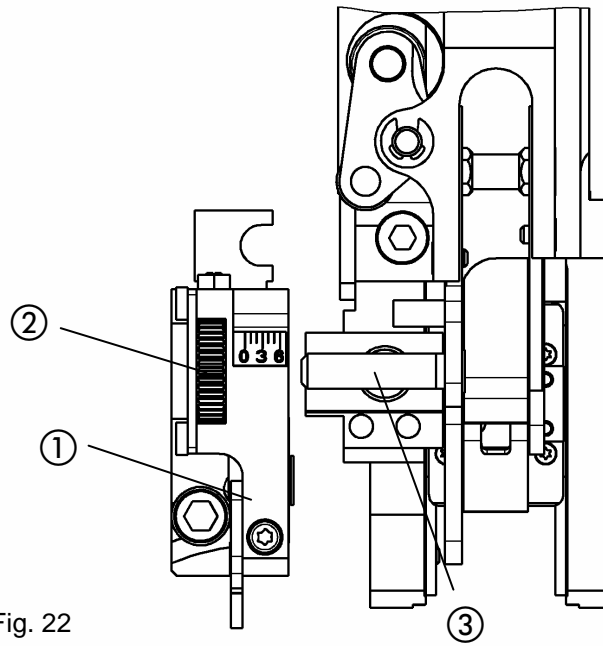

Fig. 22
- Fig. 22 -
- To replace the knife, move the knife box ① completely away from the guide ③ by turning the knurling wheel ② and remove from the stitching head.
- Replace knife slider ⑤ in the knife box ① (arrow B), compressing the pressure spring of the knife slider with a screwdriver, and pushing it into the knife box. Make sure that the pressure spring is not bent.
- Place knife box ① on the guide ③.